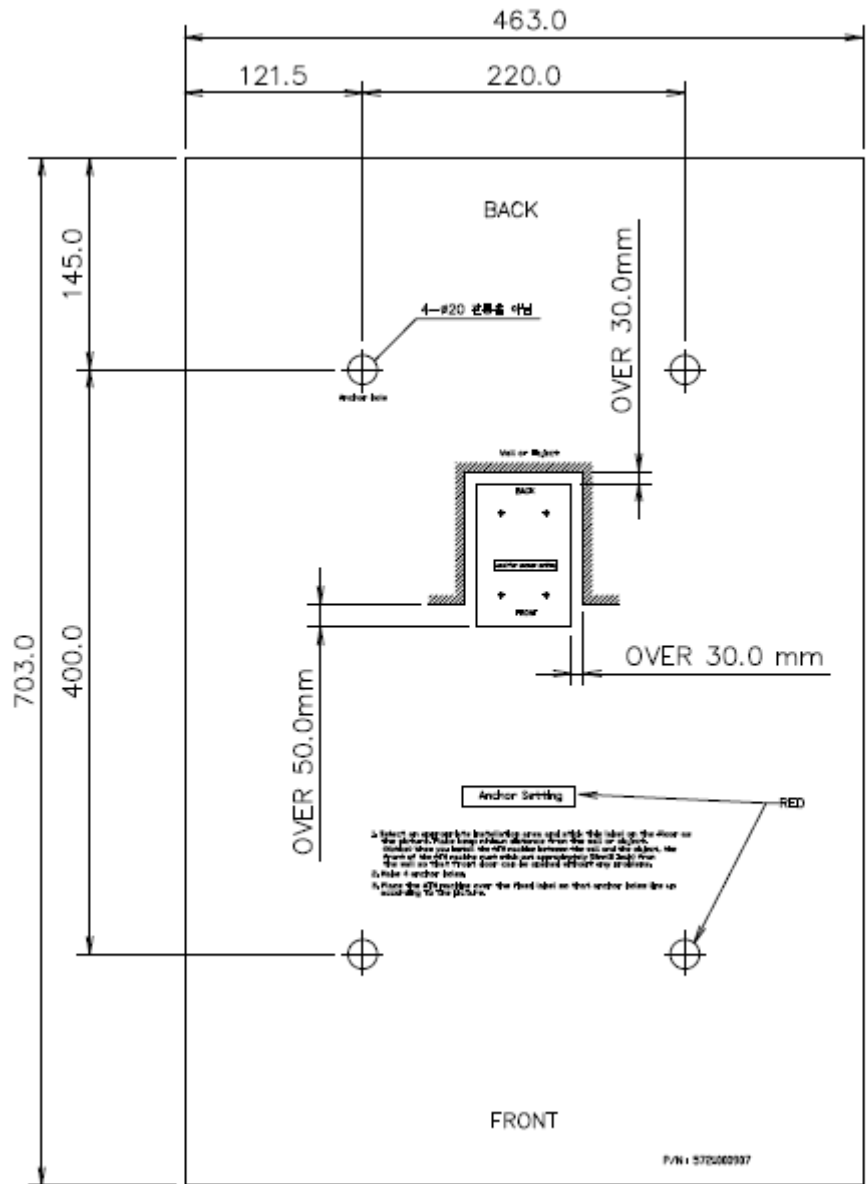

Fig.5 Anchor diagram of MoniMax5600 ATM
- After the anchor nuts are in place according to the anchor holes on the bottom of MX5600 ATM, tighten the anchor bolts tightly. (Refer to Fig.5)